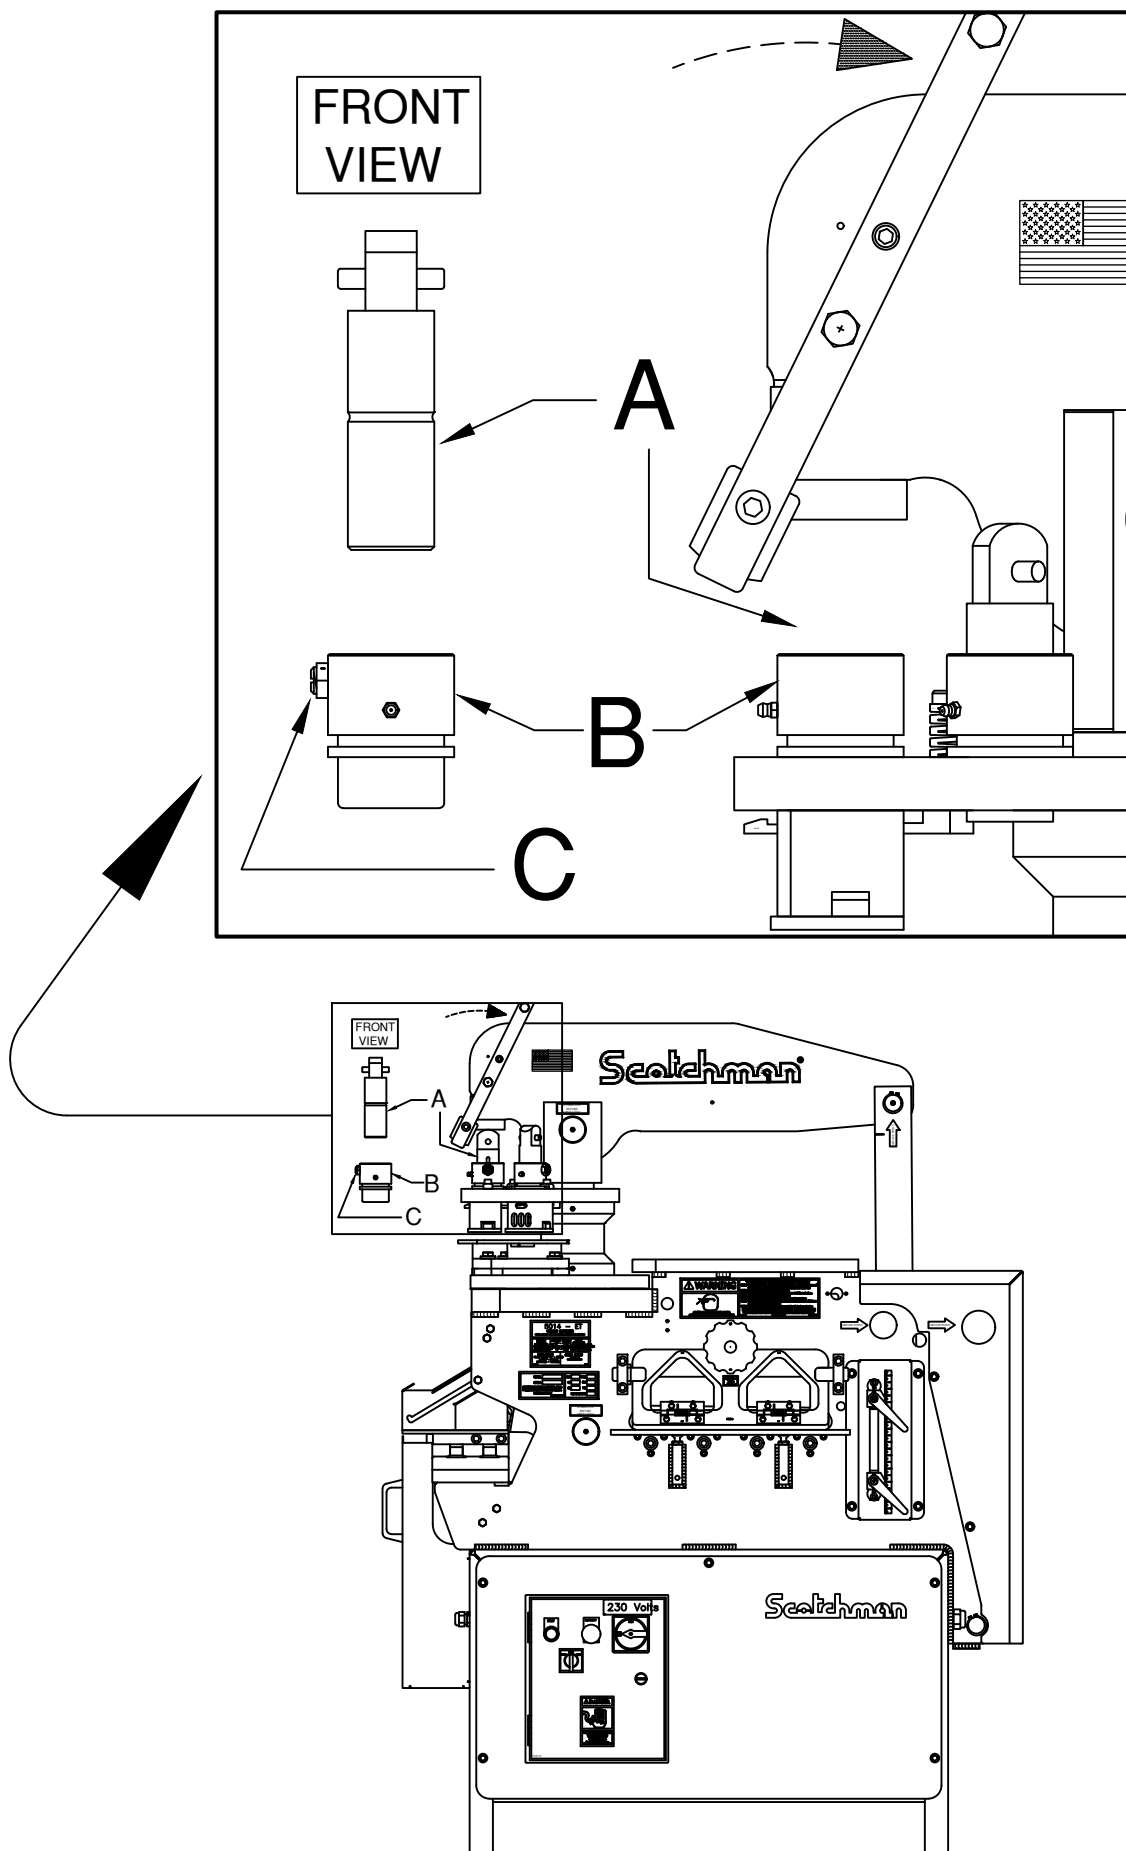

FIGURE 8
**A. Check the clearance between the punch barrels (A) and the punch barrel guides (B).**
**FOR PARTS IDENTIFICATION, SEE FIGURE 8 ON THE FOLLOWING PAGE.**
- 2. Loosen the ball guide set screw (C) that guides the punch barrel.**